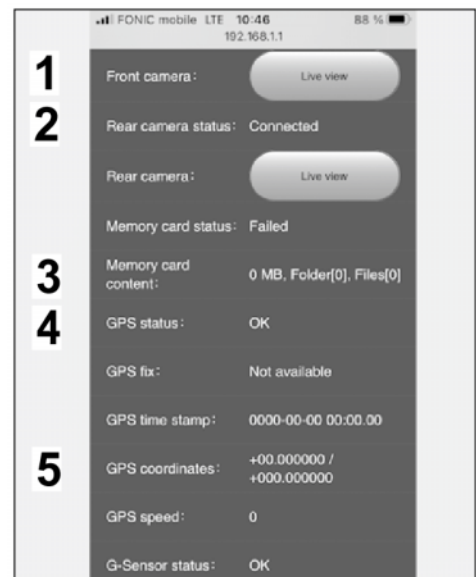

Figure 35
6.2 Display of live images from front camera, connection status, memory card status, GPS and radar status and more (⇒ *Figure 35*).